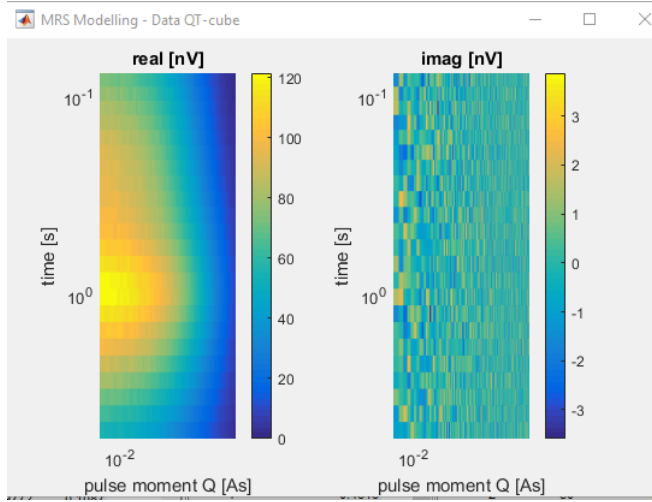

Figure 8: Real part (left) and Imaginary part (right) of the complex signals.
- The **Data QT graph** (Fig. 8) shows the real parts and the imaginary parts of the complex signals obtained with each pulse moment. On the following screenshot the axis names are actually wrong, the x-axis is the time and the y-axis the pulse moment value. The color represents voltage amplitude.